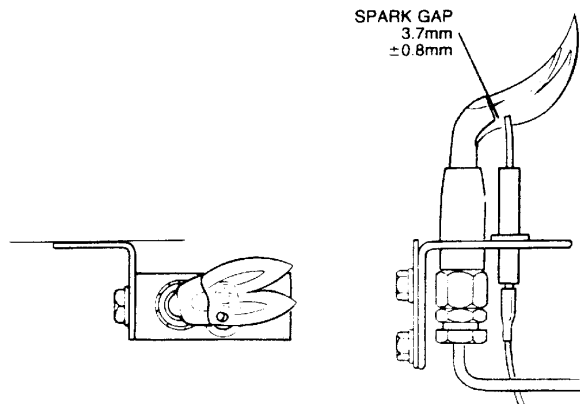

FIG. 29 PILOT BURNER SPARK GAP TOLERANCES
The pilot is pre-set and no adjustment is required. The pilot flame envelope should cover the electrode tip, see FIG. 29. If the pilot flame is not as illustrated, remove and clean the pilot as described in the Servicing Instructions Section 4, PILOT BURNER, Page 22.
- H. Ensure that the spark gap is as illustrated in FIG. 29.
6. Replacement is the reverse of removal. On reassembly ensure that the spark gap is as illustrated in FIG. 29.